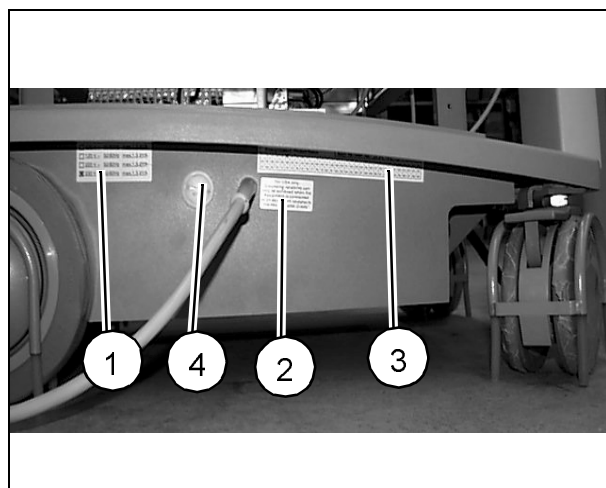

Fig. 2
- Check off the corresponding line voltage on the line voltage label (1/Fig. 2) by referring to the old label and affix to the covers.
- Copy the information on the old label (model number and revision status) to the new revision status label (2/Fig. 2) and affix to the new covers.
- Affix the "Hospital grade" label (2/Fig. 2) to the covers.